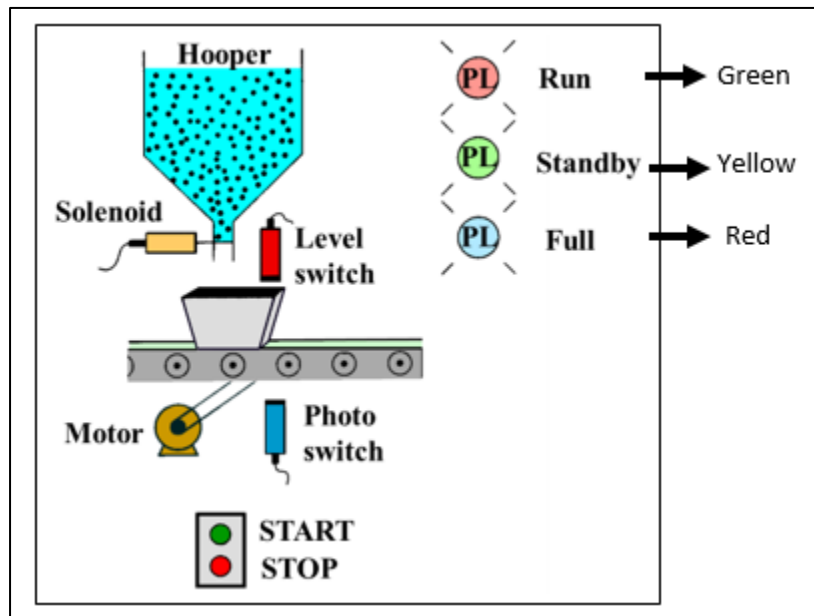

Figure 1 Continuous Filling Operation
- (b) Figure 1 shows a continuous filling operation in one of the manufacturing plant. This process requires that boxes moving on a conveyor be automatically positioned and filled. Analyze the situation and give sequence of operation for the continuous filler operation.